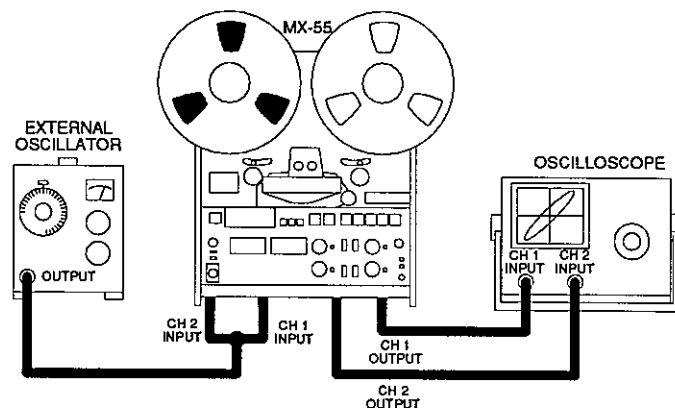

Figure 4-23
3. Connect an external oscillator to both rear panel INPUT connectors. Connect one channel of the dual-trace oscilloscope to each of the rear panel OUTPUT connectors as shown in **Figure 4-23**. Configure the oscilloscope to display the input signals as a lissajous pattern.